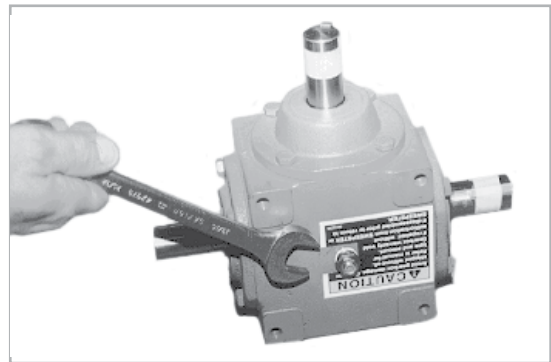

figure 3
3. Remove the vent plug and drain plug (figures 3 and 4). Reinstall plugs in the opposite holes. Tighten both plugs securely.